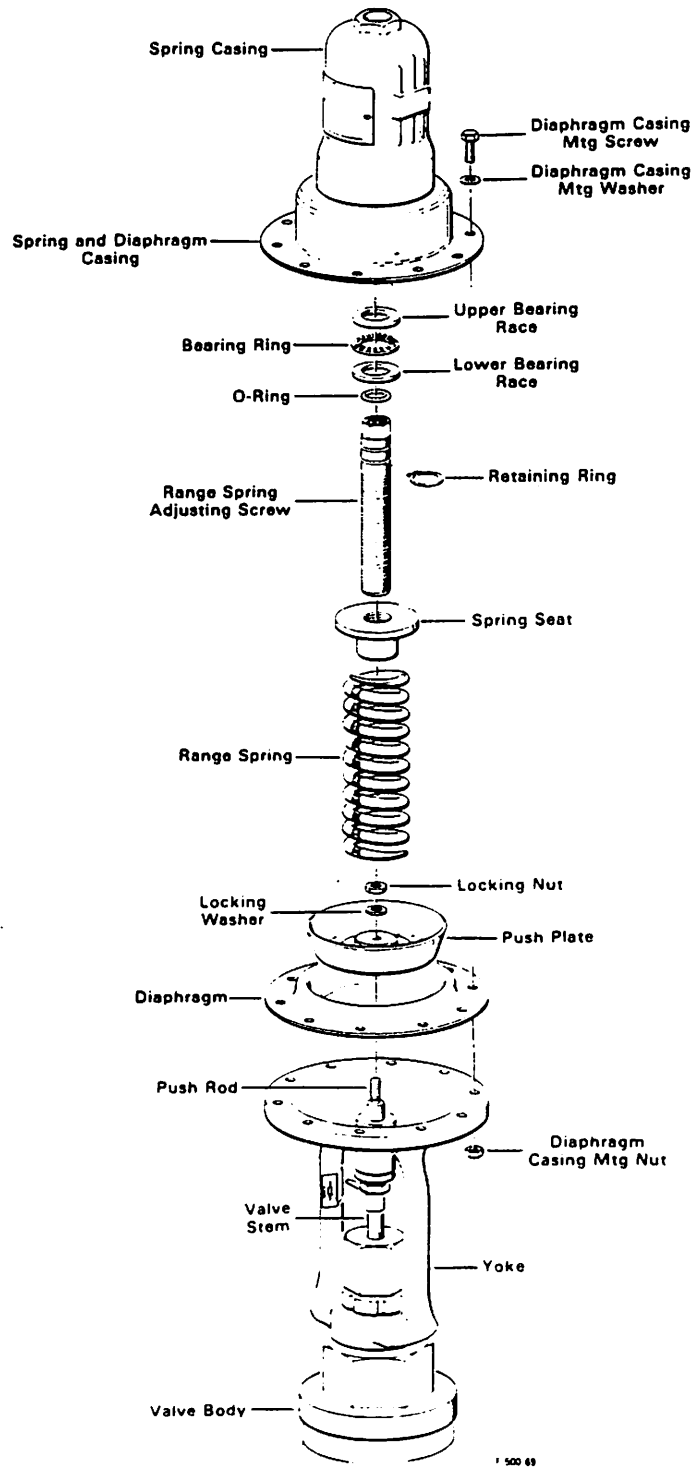

Figure 25. Exploded View of Air-to-Raise Actuator
4. Loosen and remove all diaphragm casing mounting screws, nuts and washers, Figure 25.
4. Unscrew spring casing with adjusting screw from diaphragm casing, Figure 25.